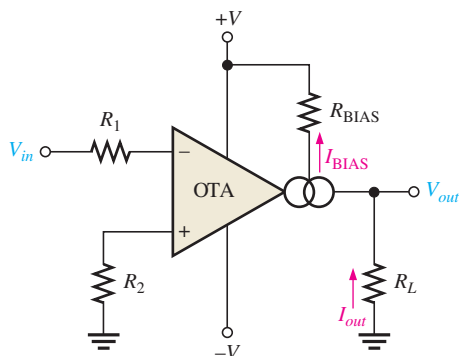

FIGURE 14–19
The transconductance of the amplifier in Figure 14–19 is determined by the amount of bias current, which is set by the dc supply voltages and the bias resistor R_{BIAS} .
One of the most useful features of an OTA is that the voltage gain can be controlled by the amount of bias current. This can be done manually, as shown in Figure 14–20(a), by using a variable resistor in series with R_{BIAS} in the circuit of Figure 14–19. By changing the resistance, you can produce a change in I_{BIAS} , which changes the transconductance. A change in the transconductance changes the voltage gain. The voltage gain can also be controlled with an externally applied variable voltage, as shown in Figure 14–20(b). A variation in the applied bias voltage causes a change in the bias current.
► **FIGURE 14–20**